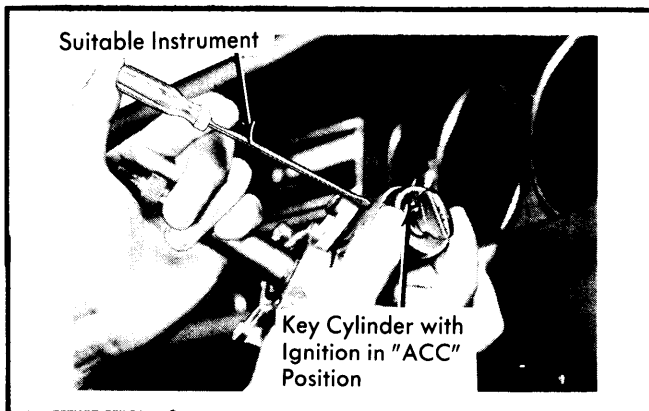

Fig. 2 Disengaging Key Cylinder from Position on Mainshaft
3) Remove turn signal switch assembly (only if column lock assembly is being removed). Remove mainshaft bearing retainer and snap ring (if required). Insert key and turn ignition to "ACC" position. Using a small pointed tool to press down stop pin on side of cylinder, free mechanism and pull cylinder from housing. See Fig. 2.